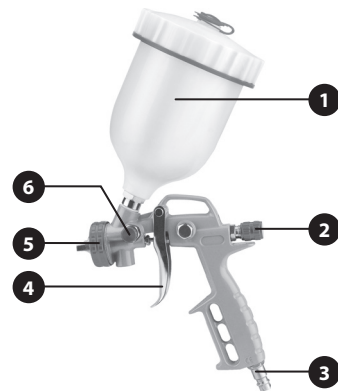

Fig. 2
- In the event that the pistol nozzle becomes clogged while spraying, release the gun's control lever, disconnect the gun from compressed air, and then use a needle or a thin wire to clean out the gun's needle tip area (it might be necessary to press the control lever for the gun's needle to clear the hole). It may be necessary to remove the needle out of the gun and clean it out, and then flush the system with solvent. To remove the needle, it is necessary to screw out the air flow regulator (fig.2, position 2) and remove the needle together with the compression spring. In the event that the nozzle on the mist spray or air blow gun become clogged, likewise clear it out with a thin sharp object (needle or wire).